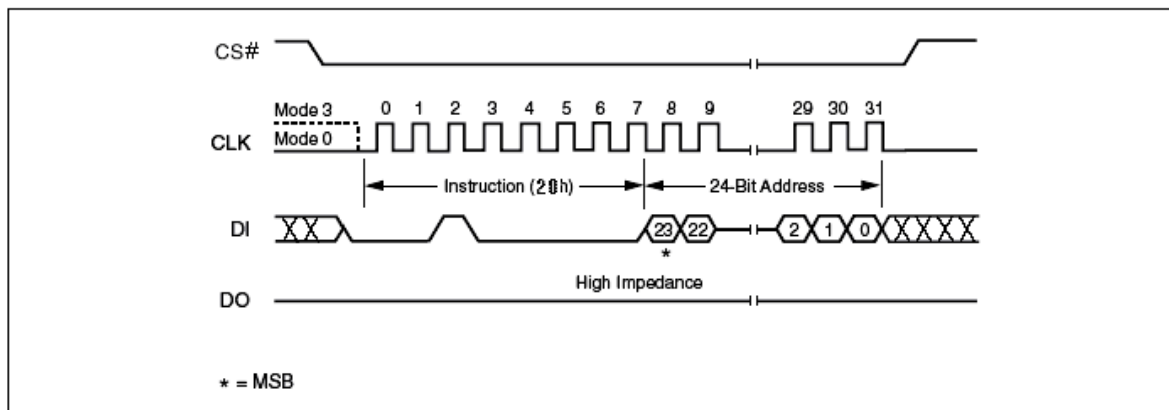

Figure 34. Sector Erase Instruction Sequence Diagram
The instruction sequence is shown in Figure 34. Chip Select (CS#) must be driven High after the eighth bit of the last address byte has been latched in, otherwise the Sector Erase (SE) instruction is not executed. As soon as Chip Select (CS#) is driven High, the self-timed Sector Erase cycle (whose duration is t_{SE}) is initiated. While the Sector Erase cycle is in progress, the Status Register may be read to check the value of the Write In Progress (WIP) bit. The Write In Progress (WIP) bit is 1 during the self-timed Sector Erase cycle, and is 0 when it is completed. At some unspecified time before the cycle is completed, the Write Enable Latch (WEL) bit is reset.
When used only to obtain the Device ID while not in the power-down state, the instruction is initiated by driving the CS# pin low and shifting the instruction code "ABh" followed by 3-dummy bytes. The Device ID bits are then shifted out on the falling edge of CLK with most significant bit (MSB) first as shown in Figure 34. The Device ID value for the device are listed in Table 6. The Device ID can be read continuously. The instruction is completed by driving CS# high.